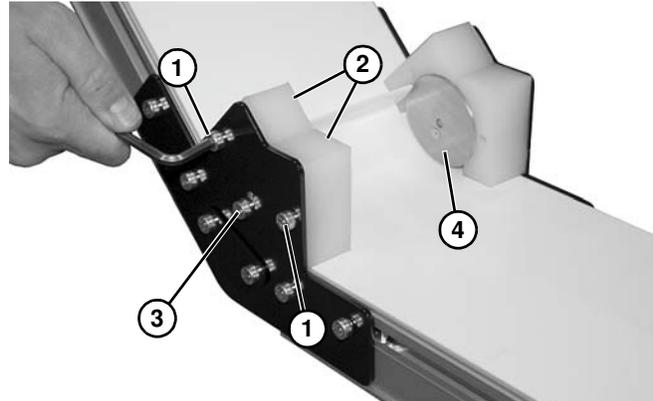

Figure 130
- If equipped with a lower knuckle, remove screws (Figure 130, item 1) and remove guards (Figure 130, item 2) on both sides of knuckle.
- Remove screws (Figure 130, item 3) and remove roller bearing assembly (Figure 130, item 4) on both sides of knuckle.